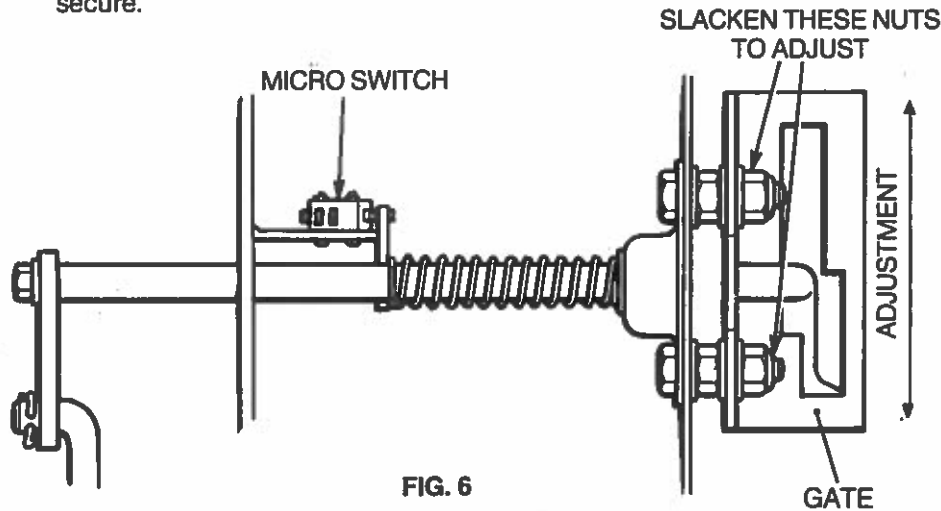

FIG. 6
4. Gear Lever and Gate (Refer to Fig. 6)